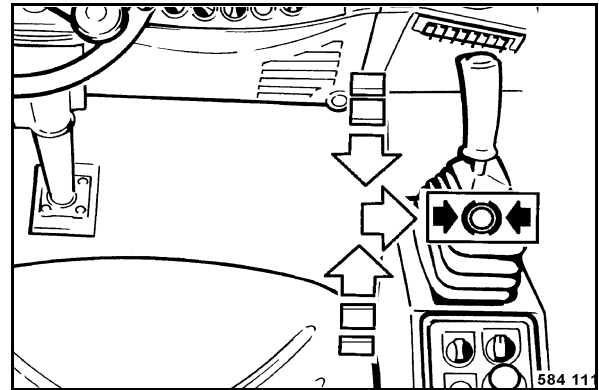

Fig. 57
- Return the travel lever (Fig. 57) slowly to "neutral"-position and engage it to the right in braking position.